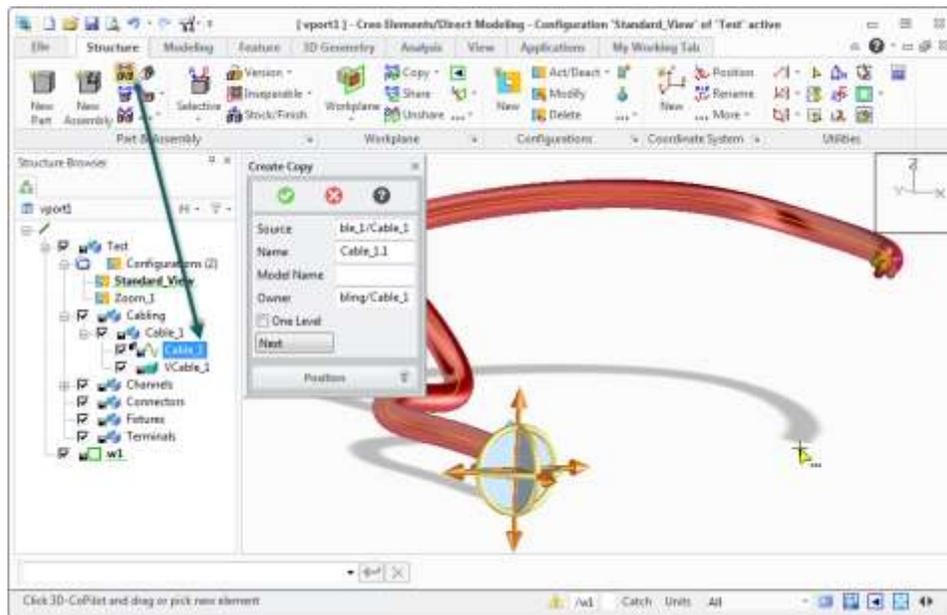

Figure 3. Select cable and create a copy.
4. Make a copy of the existing 3D Curve for the Cabling conductor as follows: In the **Structure** tab, in the **Part & Assembly** group, click **Copy** (Fig. 3).